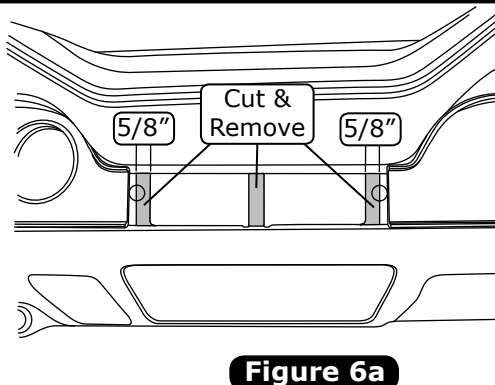

Figure 6a
2. Modify the center louver opening on the dash as shown in Figure 6a, below.